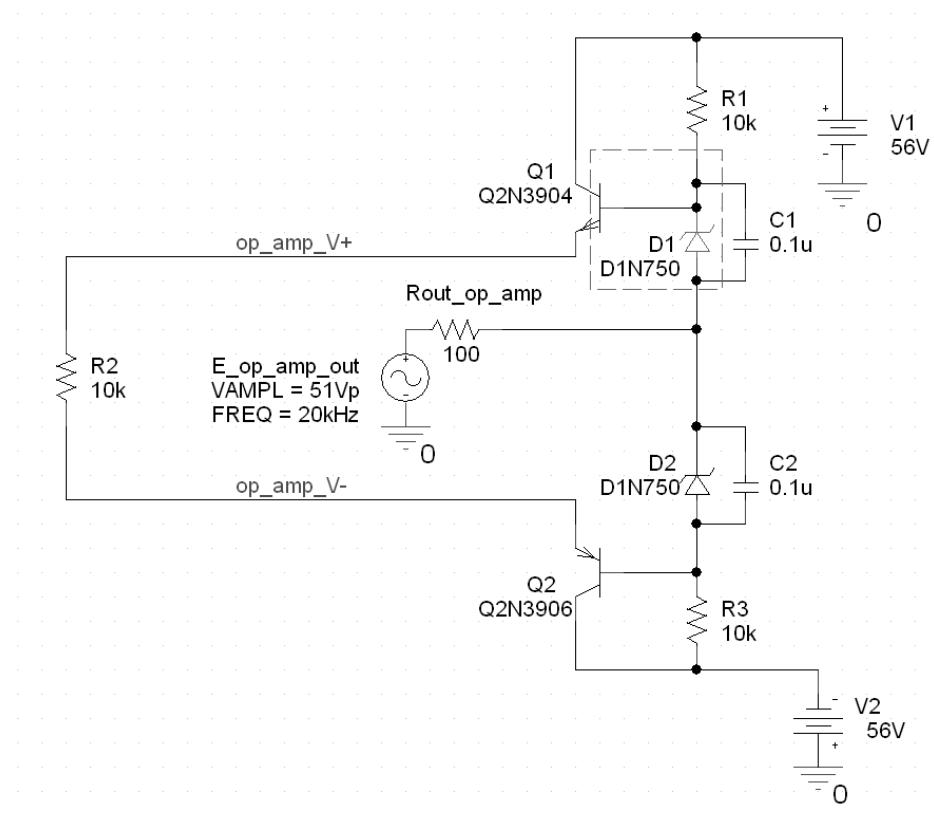

Figure 1-27 PSpice simulation schematic for Example 1-8
The PSpice simulation is shown in Figure 1-27.
- What is the maximum op amp output from the circuit in Figure 1-27 before the supply voltages begin to flatten?
The 0.1 μF decoupling capacitor is placed *between* the two power pins, instead of to common. Remember, the whole purpose of the suspended supply is to put a signal on each power pin with respect to ground. So shorting these signals to common through the decoupling capacitor is the opposite of what you want. From Figure 1-27 you saw that the *difference* between the two power pins must be the same. So the decoupling capacitor places an ac short between these pins, assuring that any noise bypasses the op amp entirely.